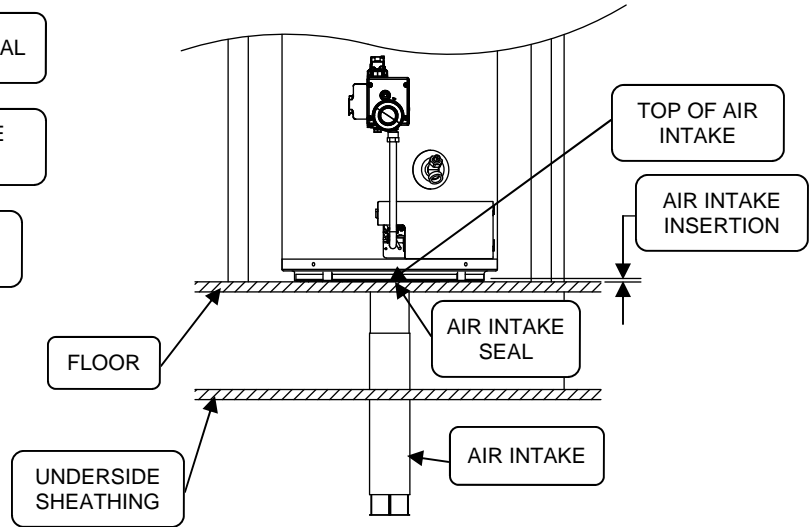

Figure 3
Step 7. Adjust the air intake so the lower tube extends below the underside sheathing and secure (see Figure 3).
Step 9. Position the water heater so the opening in the base will engage the air intake tube extending above the floor (see Figure 3).